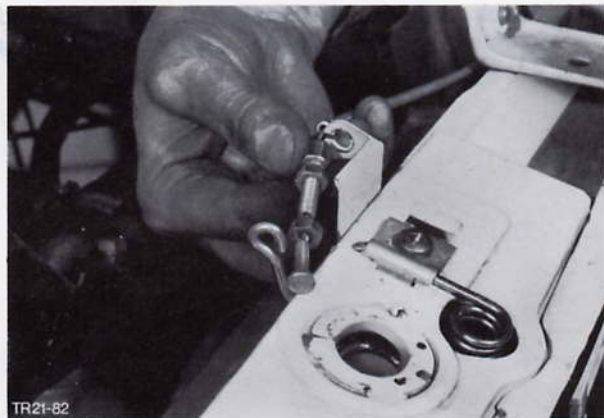

Fig. 155. Fit hood cable
34. Hook hood cable into catch, Fig. 155, and fit to radiator grille panel.